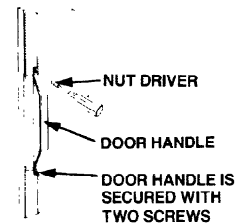

FIGURE 8
5. Remove the two handle screws with a nut driver or socket wrench as shown in Figure 8.